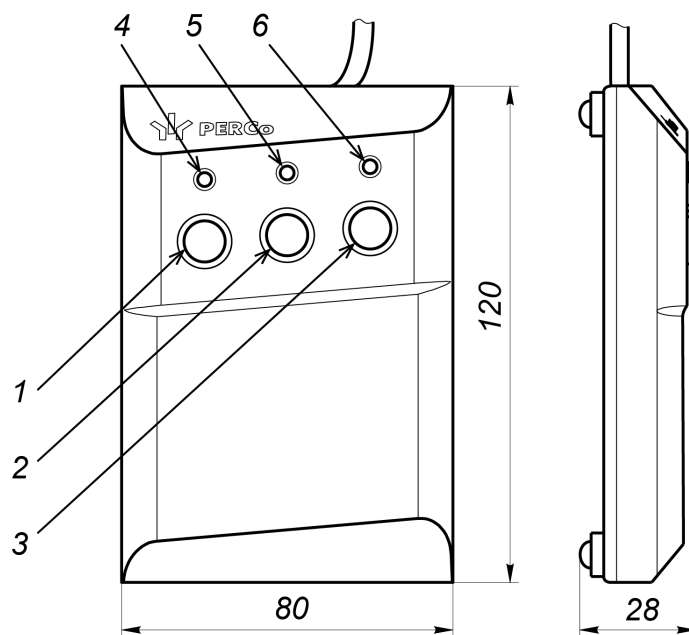

Fig. 3 RC-panel
The RC-panel (9) is designed as a small desktop device with a shock-proof ABS plastic case and is intended for setting and indicating operating modes when the turnstile is operated manually. The RC panel overall view is shown in Fig. 3.